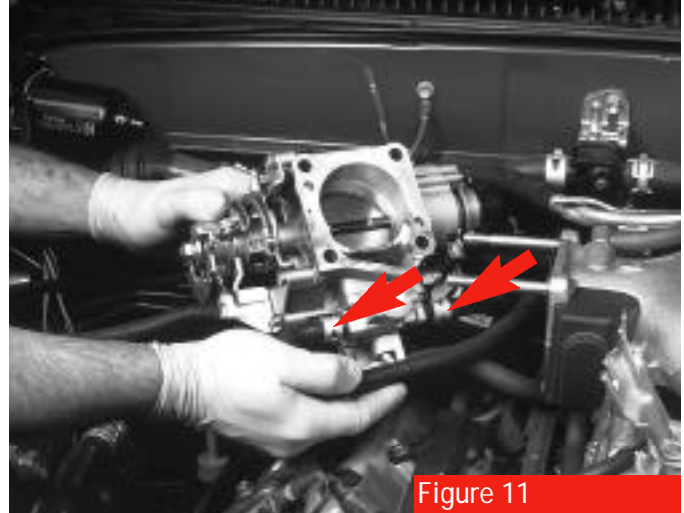

Figure 11
14. Remove vacuum lines from the throttle body but **don't remove the two coolant hoses (figure 11)**.